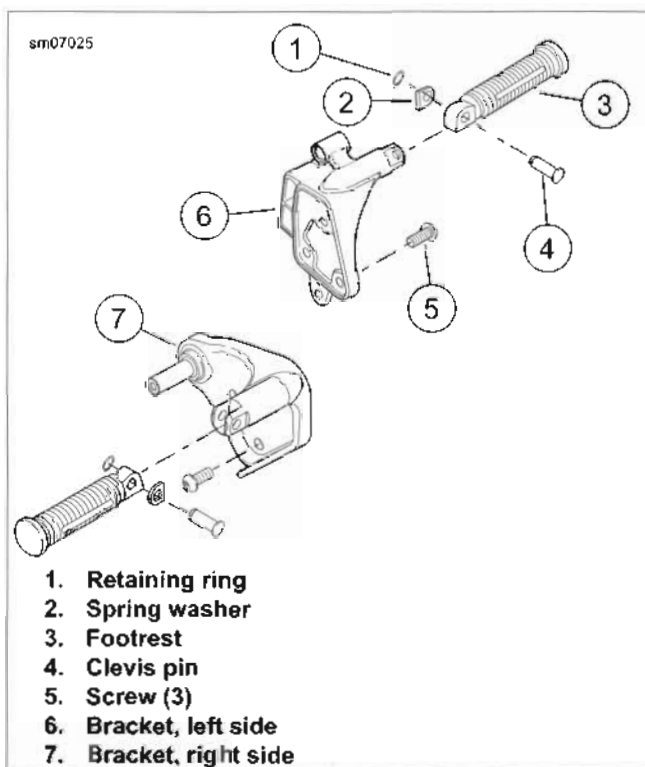

Figure 2-126. Rider Footrests
See Figure 2-126. Remove retaining ring (1) and clevis pin (4). Pull footrest (3) and spring washer (2) from support (6 or 7).
1. See Figure 2-126. If support (6 or 7) was removed, install with screws (5). Tighten to 32-37 ft-lbs (43.4-50.2 Nm).
2. Place footrest (3) and spring washer (2) into position on support (6).
3. Install clevis pin (4) and new retaining ring (1).